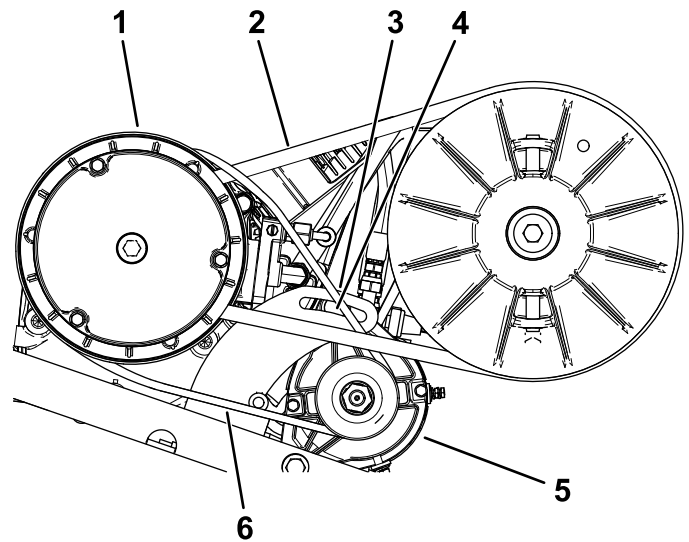

Figure 67
2. Loosen the pivot nut for the starter generator (Figure 67).
4. Apply downward pressure to the pry bar to rotate the starter down in the slot until the belt tension only allows 6 mm (1/4 inch) belt deflection with 44 N·m (10 ft-lb) of force (Figure 67).
5. Tighten the pivot nut by hand, and remove the pry bar (Figure 67).